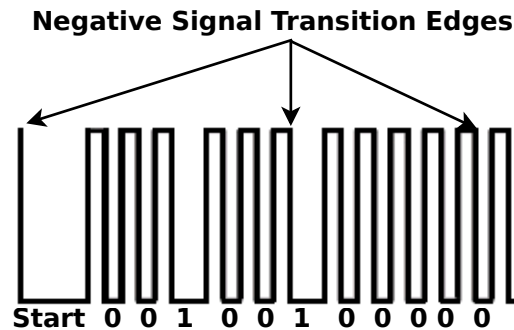

Figure 2: PWM Encoded Pulse Train for IR Remote
represent specific binary codes are transmitted from the IR remote . These binary codes correspond to commands such as ‘Power On/Off’, ‘Volume Up/Down’, etc. The receiving hardware decodes the pulses of light back into binary codes and uses them to command the device under control. The IR remote we will be using encodes the binary data using Pulse Width Modulation as seen in Figure 2. In addition to the binary data pulses, each pulse train consists of a ‘START’ pulse. A negative edge transition separates each pulse.
- (d) Using Figure 2 as a guide, measure the length of the 'Start', '0', and '1' pulses. You will need to use the time axis cursors on the oscilloscope to do this. Try to make your measurements as accurate as possible and note them in your lab manual.